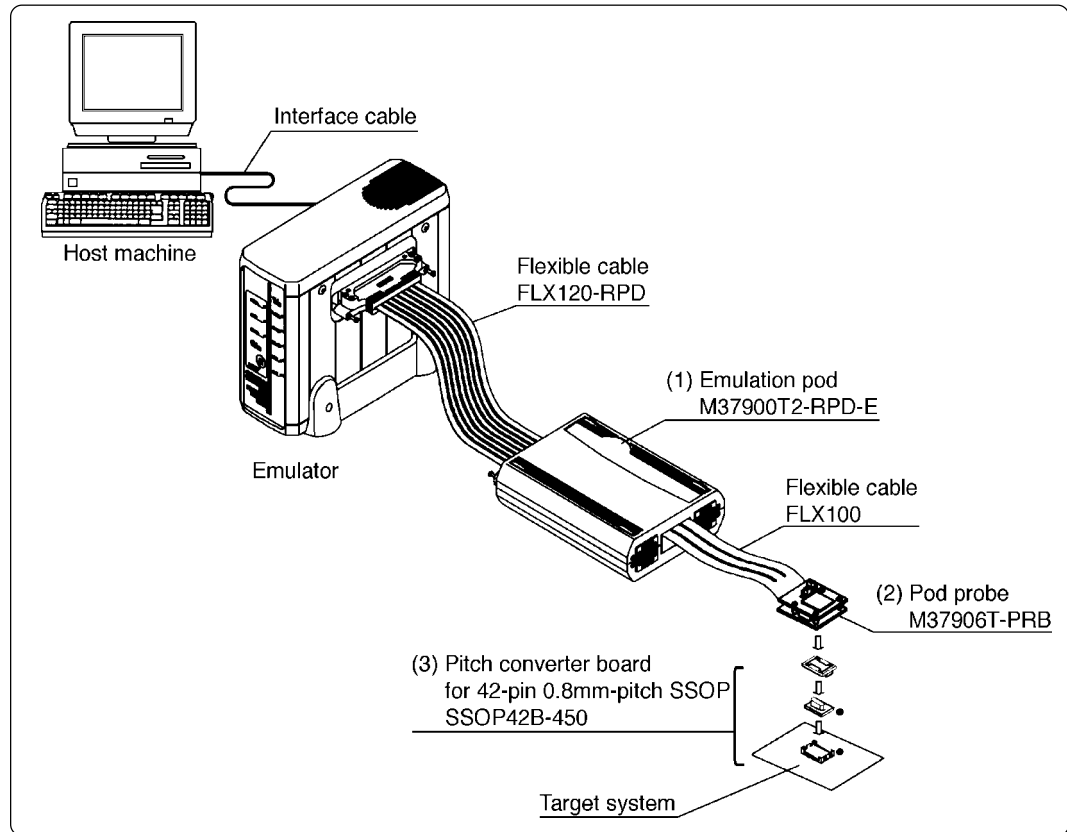

Figure 2.1 System configuration
Products (2) and (3) shown in Figure 2.1 are included with this product. Get (1) in Figure 2.1 separately.
(1) Emulation pod main unit (M37900T2-RPD-E)